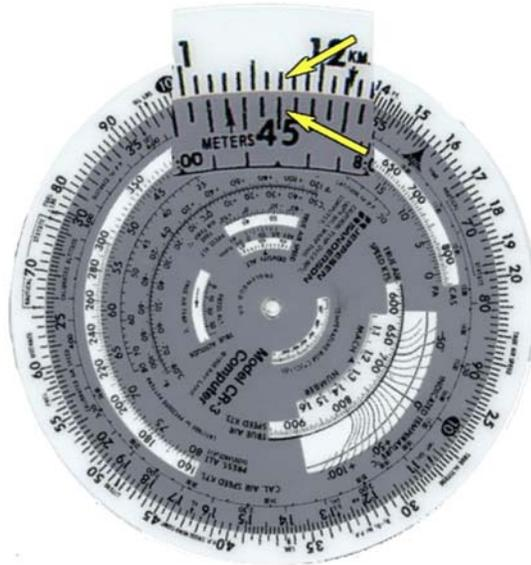

Figure 4.3-26 Fuel Flow 1
2. Find 11.7 (117 #) on the FUEL (outer) scale and place it over 45 seconds on the TIME (inner) scale. (Figure 4.3-26)